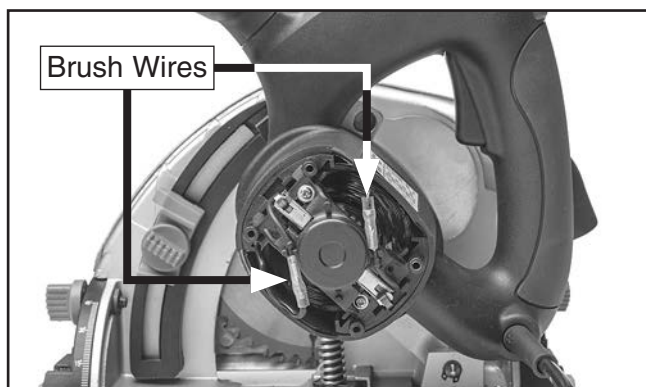

Figure 30. Location of motor brush wires.
4. Lift cover off motor to access brush wires (see **Figure 30**).